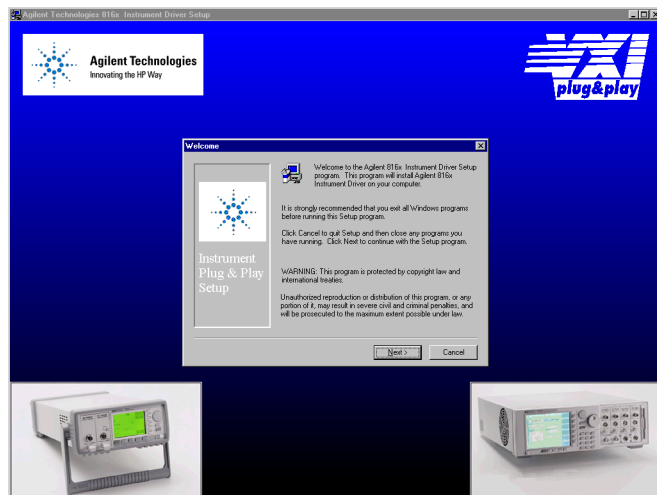

Figure 2 Welcome Screen
- 5 You see a message, as shown in **Figure 2**, advising you to close the programs that you have running.